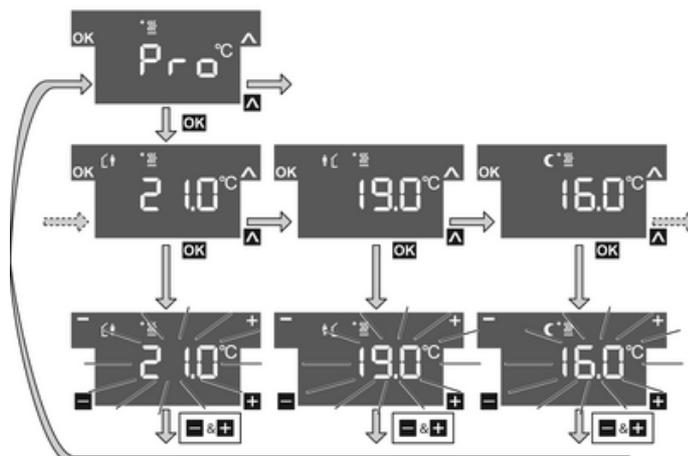

Figure 7
- Press the sensor button **▲** to select the menu item **Pro** for Heating mode ☰ or Cooling mode ☷ and press the sensor button **OK** (Figure 7).